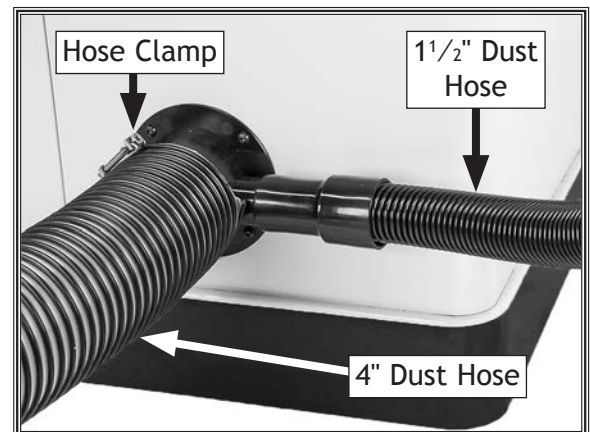

Figure 35. Dust hoses attached to port.
1. Fit a 4" dust hose over the dust port and secure it in place with a hose clamp (see **Figure 35**).